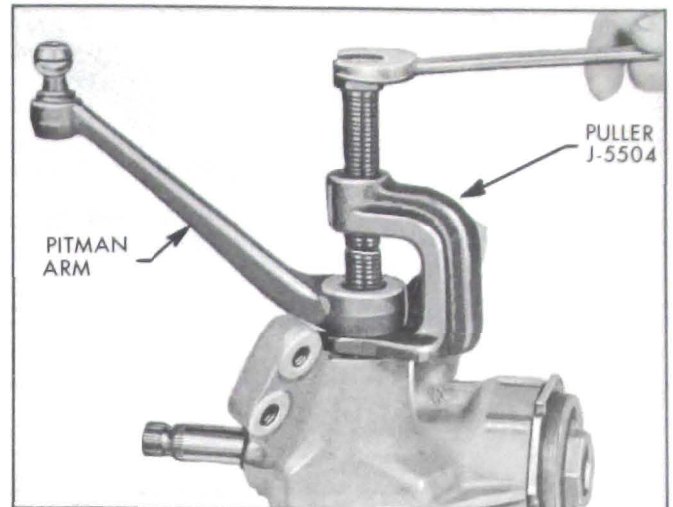

Figure 8-9—Removing Pitman Arm
6. Remove pitman arm from pitman shaft using Puller J-5504. See Figure 8-9.